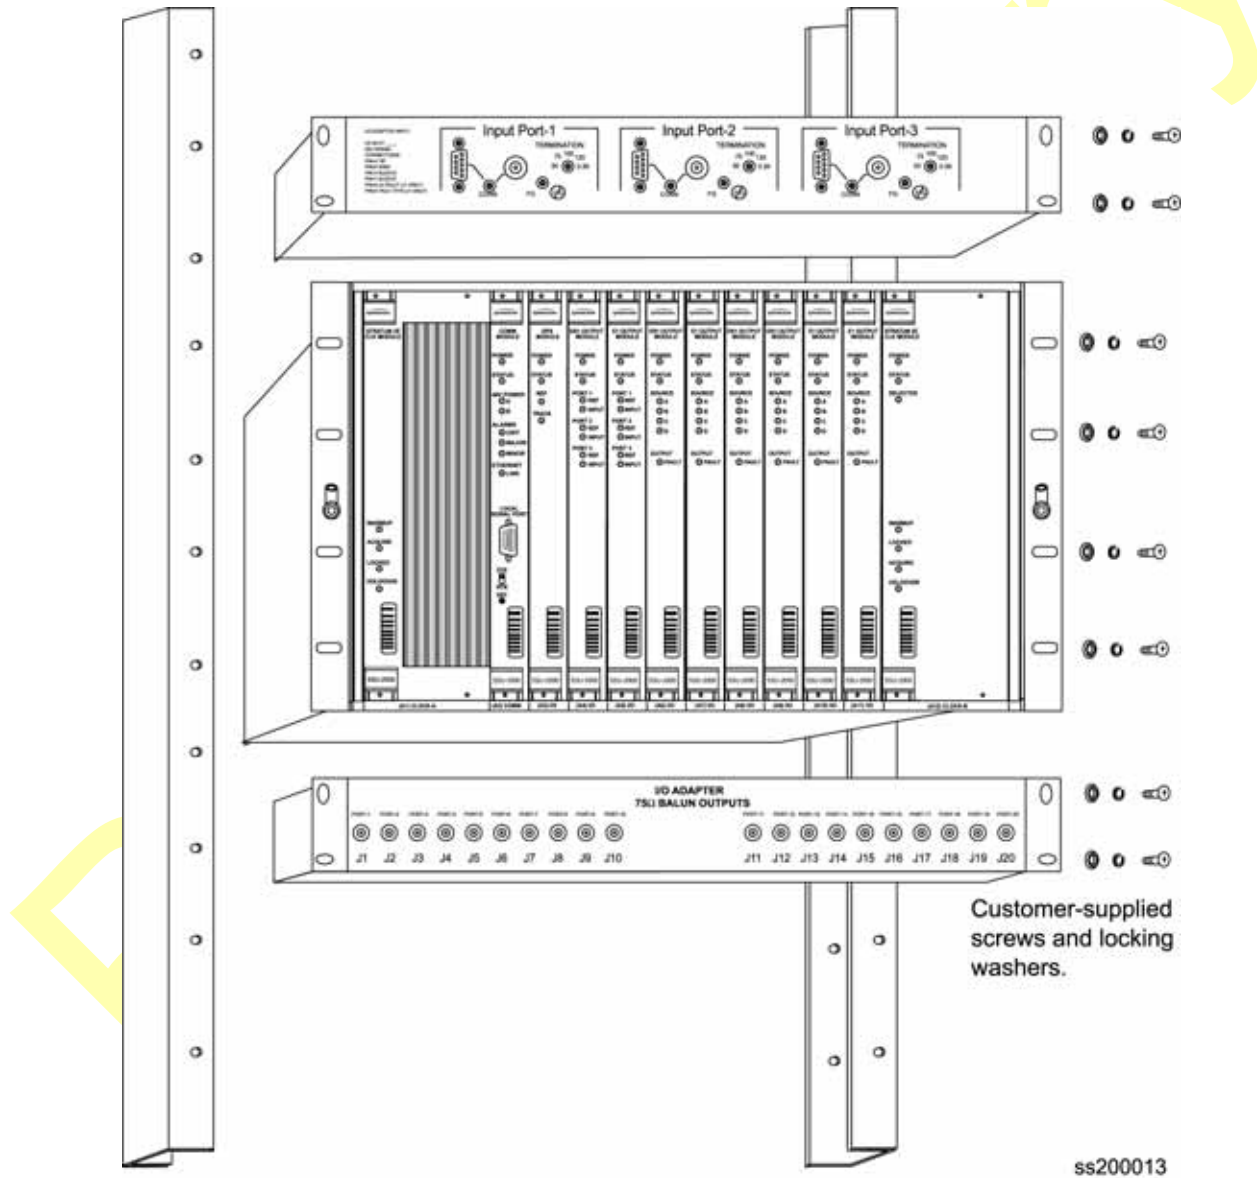

Figure 2-1. Shelf and I/O Adapter Rack Mounting
**Caution:** Failure to provide proper ventilation can result in excessive heat build-up resulting in equipment damage. Symmetricom suggests that you insert an I/O adapter panel between shelves. See Figure 2-1.
The shelves mount flush to the rack or at distances of either 2 inches (5.1 cm) or 5 inches (12.7 cm) from the front of the rack. An SSU-2000 rack mounting diagram is shown in Figure 2-1.